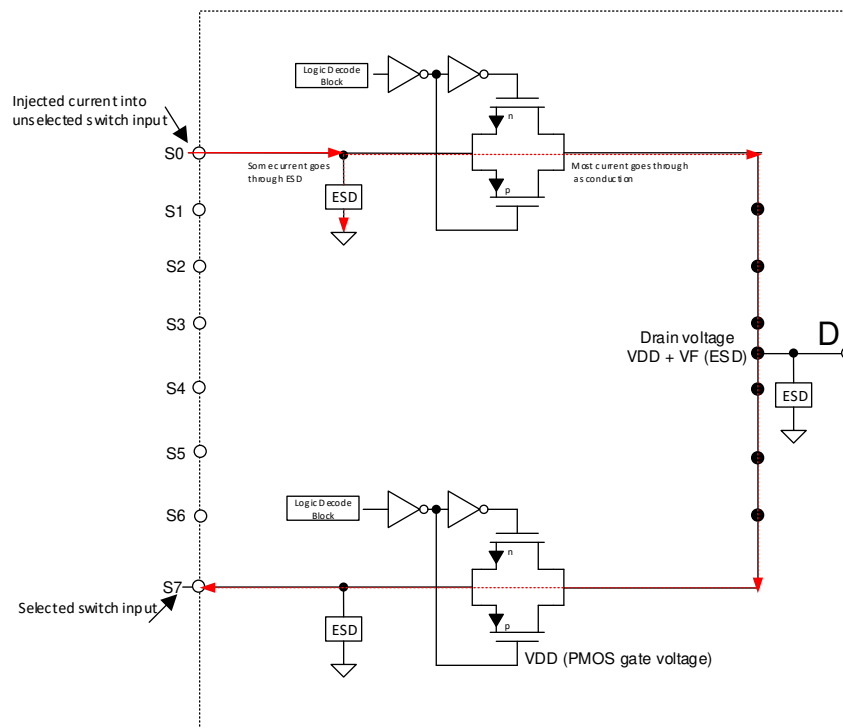

图 9-1. Simplified Diagram of Typical CMOS Switch and Associated Injected Current Path
**Injected Current Impact:** typical CMOS switches have ESD protection diodes on the inputs and outputs. These diodes not only serve as ESD protection but also provide a voltage clamp to prevent the inputs or outputs going above  $V_{DD}$  or below GND and  $V_{SS}$ . When current is injected into the pin of a disabled signal path, a small amount of current goes through the ESD diode but most of the current goes through conduction to the drain. If forward diode voltage of the ESD diode ( $V_F$ ) is greater than the PMOS threshold voltage ( $V_T$ ), then the PMOS of all OFF switches turns ON and there would be undesirable subthreshold leakage between the source and the drain that can lift the OFF source pins up also. 图 9-1 shows a simplified diagram of a typical CMOS switch and associated injected current path.